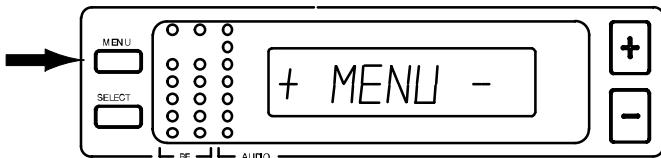

FIGURE 29
- Press the MENU button. The “+ MENU –” display appears, as shown in Figure 29.